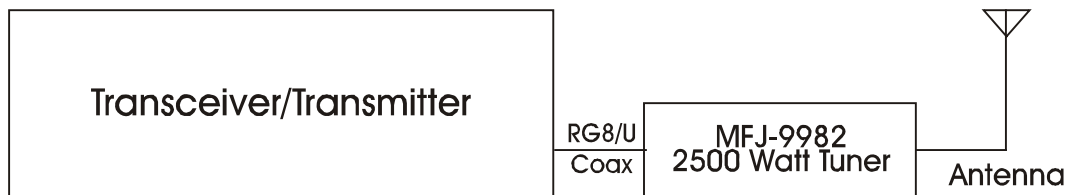

Figure 1
2. Install the tuner between the transmitter and the antenna as shown in figure 1 below. Use a coaxial cable (such as RG-8/U) to connect the transmitter (or amplifier) to the connector marked **TRANSMITTER** on the rear of the tuner.